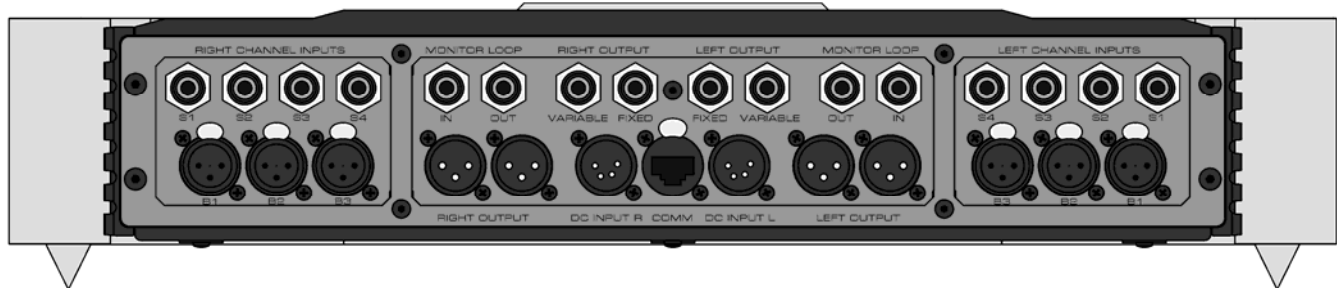

Figure 3: Rear panel of MOON 850P Preamplifier
The rear panel of the **MOON 850P** dual-mono preamplifier will look similar to Figure 3 (above). There are two rows of connectors; the top row contains single-ended RCA inputs/outputs and the bottom row contains balanced XLR inputs/outputs, as well as the three input connections from the separate digital controller chassis. There are three (3) pairs of balanced inputs on XLR connectors (B1, B2, B3) and four pairs (4) of single-ended inputs on RCA connectors (S1, S2, S3, S4). As a result of this preamplifier's dual-mono design, the left channel inputs are located on the left side and the right channel inputs are located on the right side. This preamplifier is also equipped with a single-ended monitor loop; the input and output connectors for each channel are located on their respective sides of the rear panel. The **850P** has two (2) pairs each of balanced outputs and single-ended outputs. Both balanced outputs are variable; One single-ended output is variable and the other one is fixed, meaning that it bypasses the volume control. Don't hesitate to use high quality interconnect cables. Poor quality interconnect cables can degrade the overall sonic performance of your system.